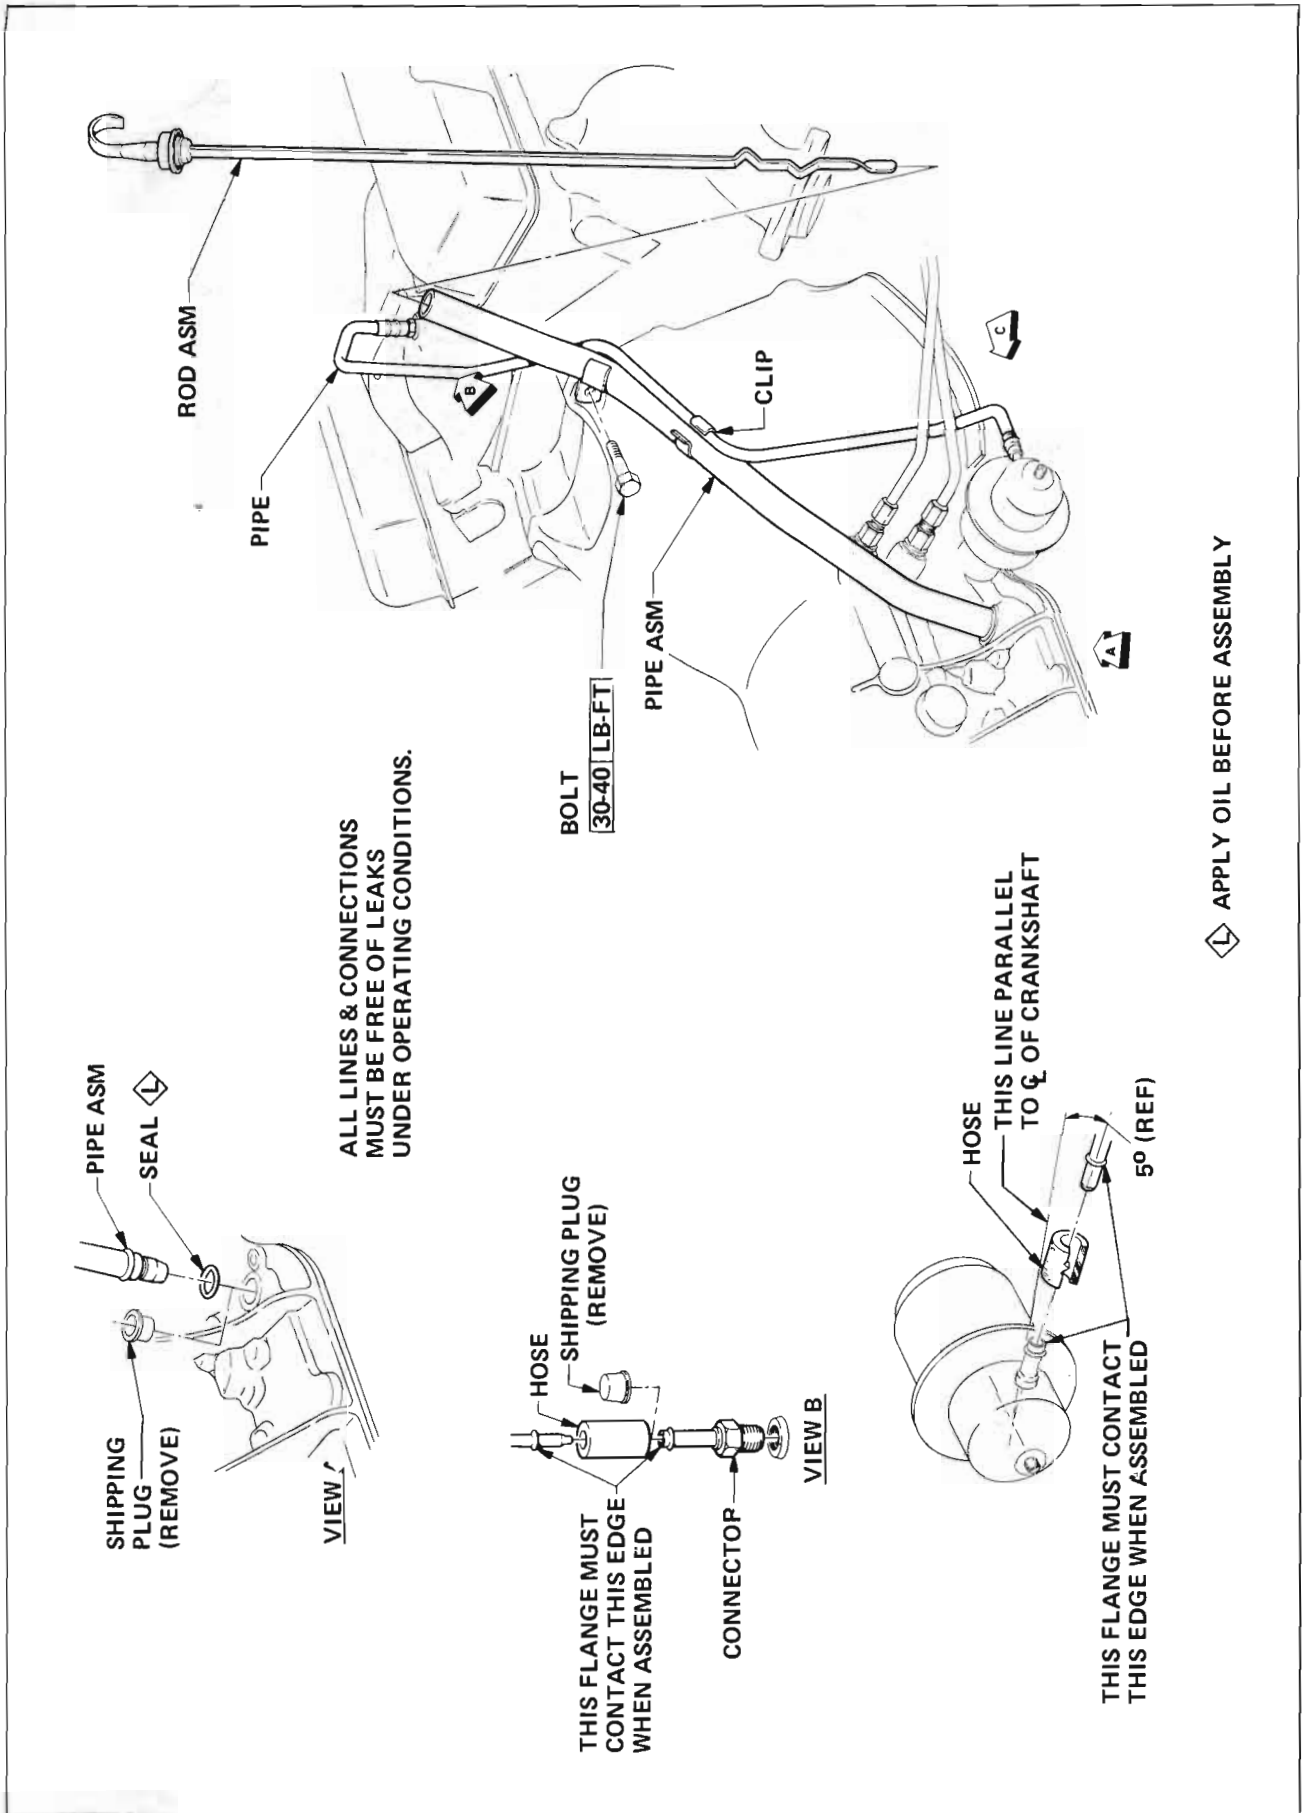

Figure 76-55 - Vacuum Modulator Line and Dipstick
5. Remove vacuum line from vacuum modulator. See Figure 76-55.